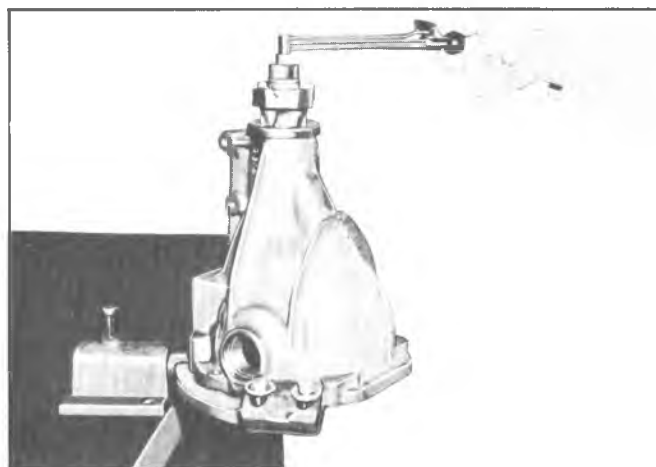

Fig. 25C—Measuring Rotating Torque
8. Install a new nut on pinion shaft. Tighten nut to remove end play—continue alternately tightening in small increments, and checking preload with torque wrench J-5853 and adapter J-5810 until torque required to rotate pinion is 20-30 in. lbs. for new bearings and seal, or 5-15 in. lbs. when used parts are reinstalled. See Figure 25C.